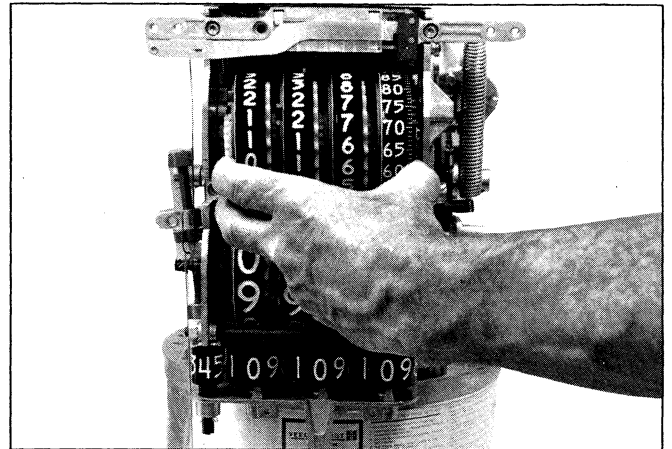

Figure 21. Removal of wheel bank.
- f. Remove entire wheel bank from computer taking care not to drop reset disc from left wheel, Figure 21.